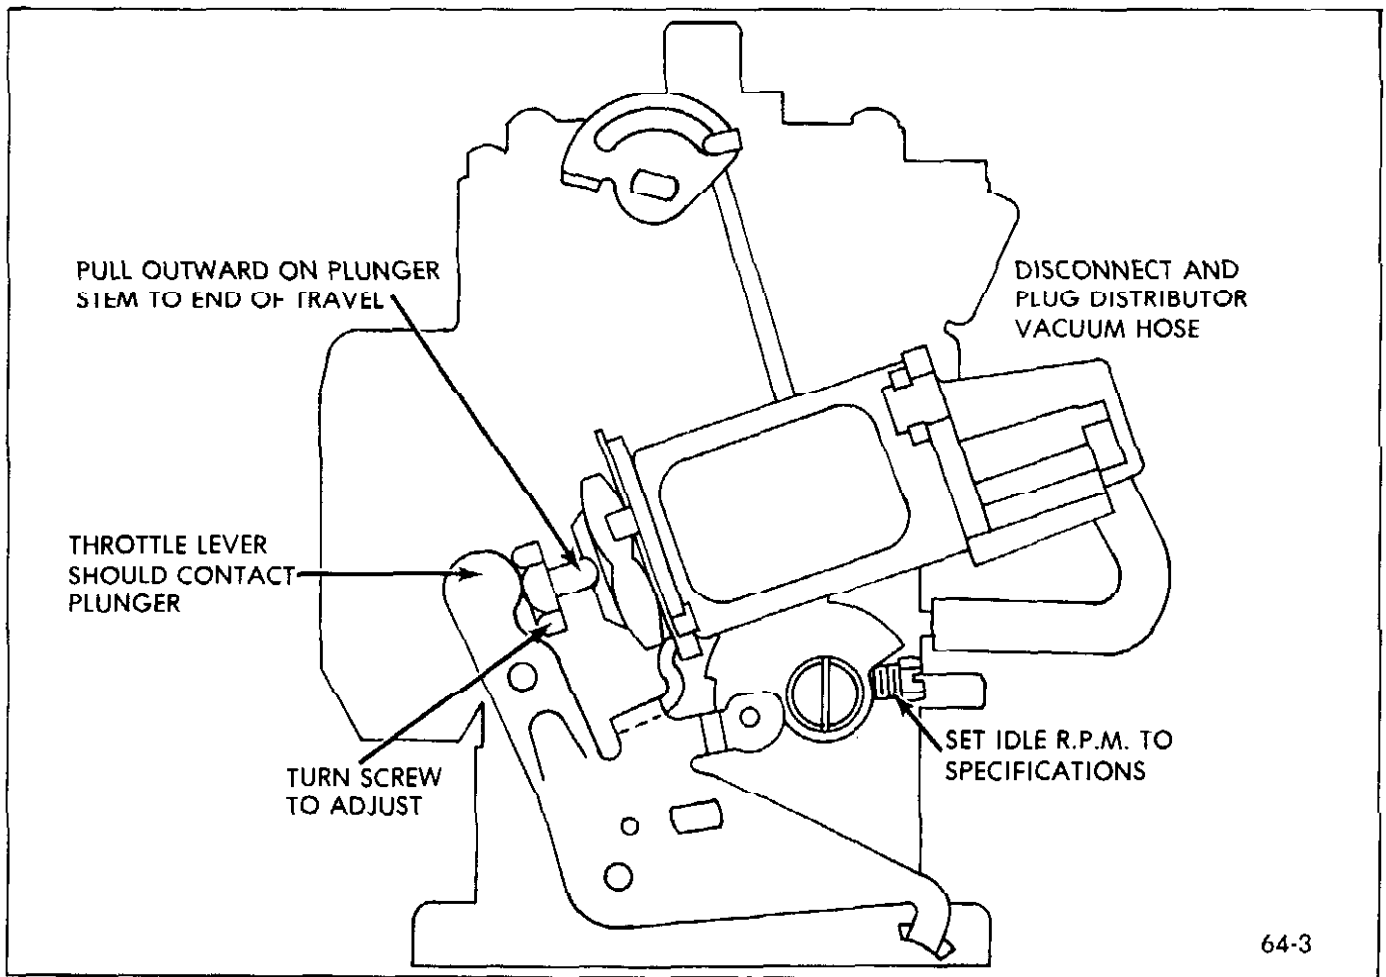

Figure 64-3 Combination Emission Control Valve Adjustment (L-6 Engine)
2. Manually extend the C.E.C. valve plunger to contact throttle lever. See Figure 64-3.